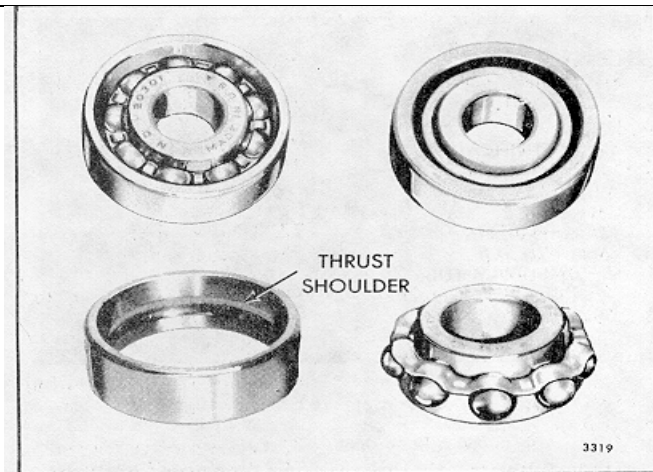

Fig. 7 - Governor Weight Shaft Bearing
**CAUTION:** This bearing has thrust capacity in one direction only. Be sure to install the bearing so that the thrust shoulder (Fig. 7) is toward the governor weights. Otherwise, the force exerted by the weights will pull the inner race and ball assembly away from the outer race and result in damage to the bearing and erratic governor operation.